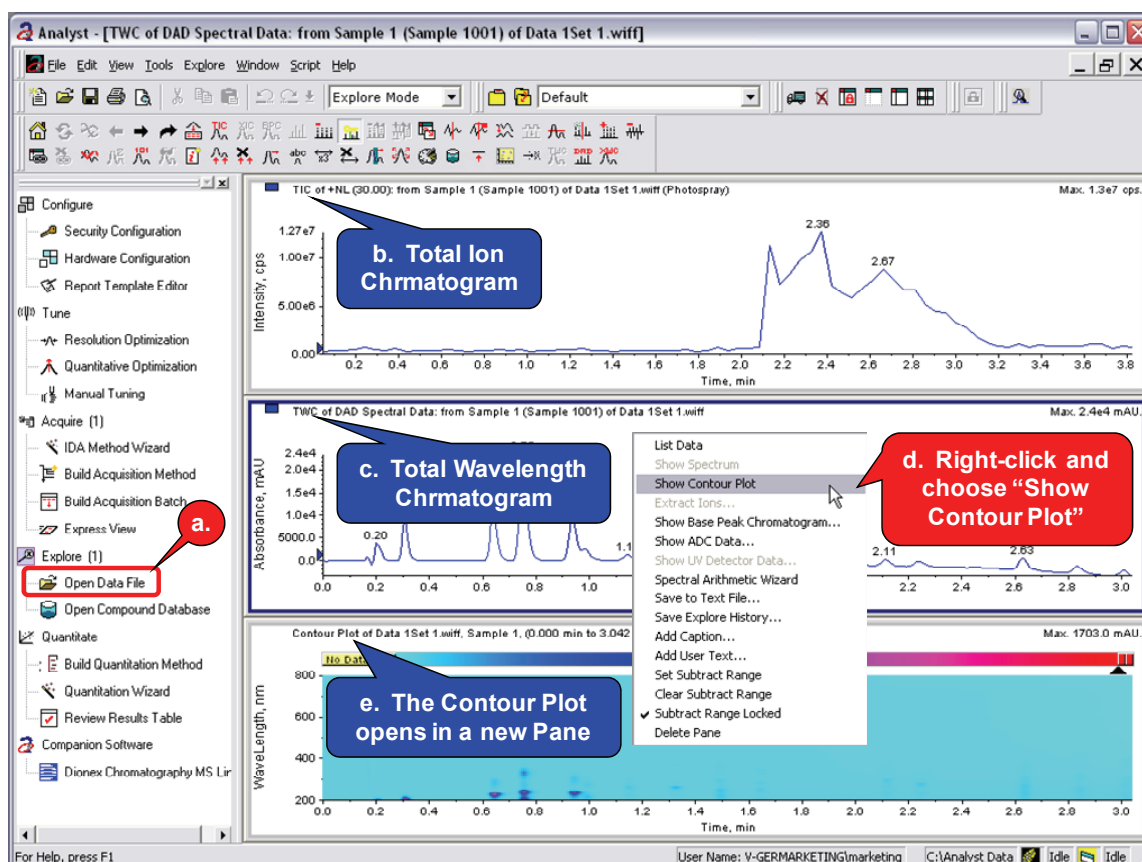

Fig. 37: Viewing 3D field (photo diode array detector data) in Analyst
5. The results are displayed in a new Pane, Fig. 37 e.